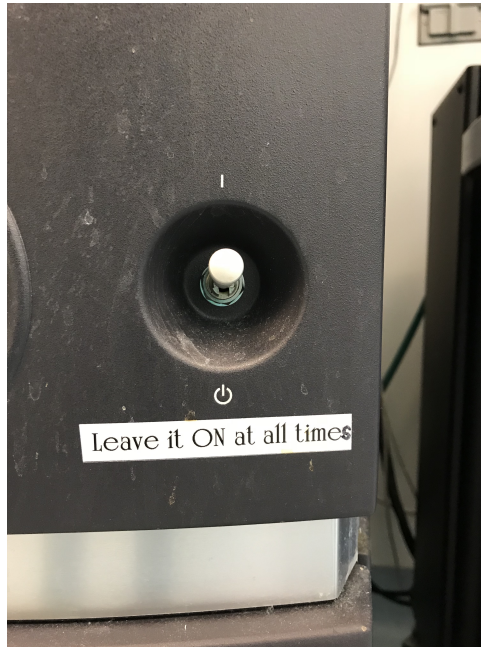

Figure 2: Always leave the Ivis power switch set to ON
2. IVIS Spectrum machine should always be on. See Figure:2